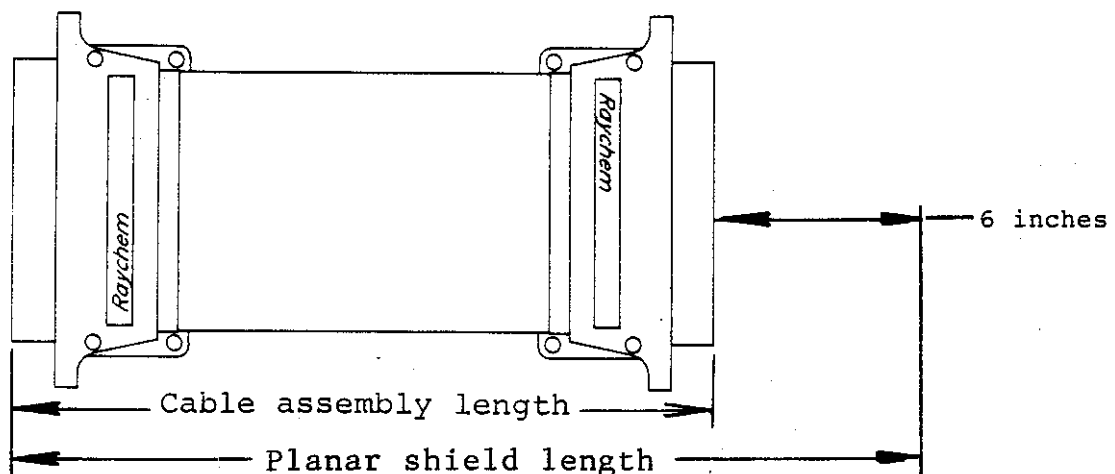

Figure 7-2. Length Determination of Planar Shield
1. Cut the planar shield to the required length (Figure 7-2).